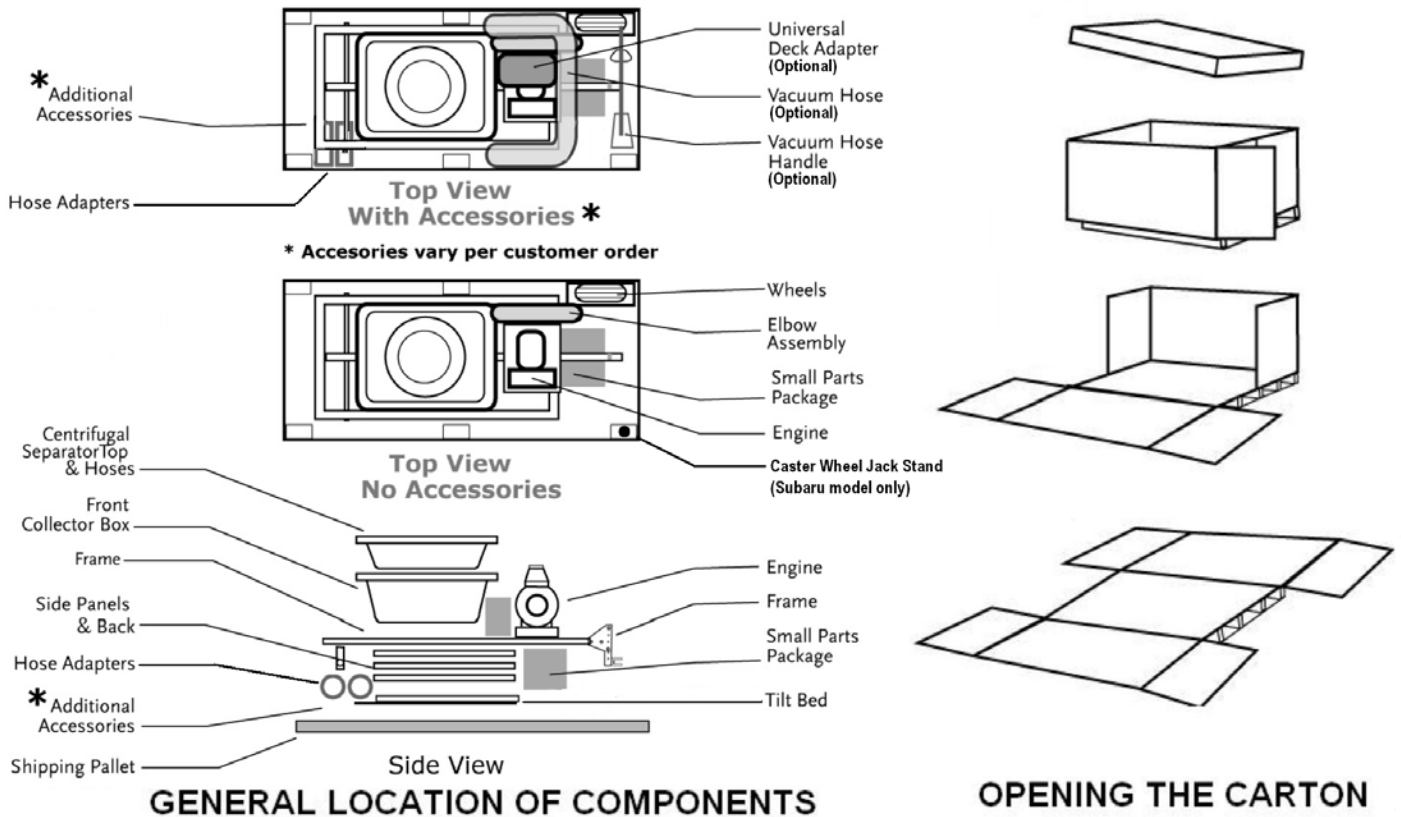

Figure 2
2. Remove the top of the carton (**Figure 2**).
3. Open the ends of the stapled cardboard carton and fold the sides down (**Figure 2**). The staples are sharp so be careful.
5. Remove the Wheels from the forward upright compartment (**Figure 2**).